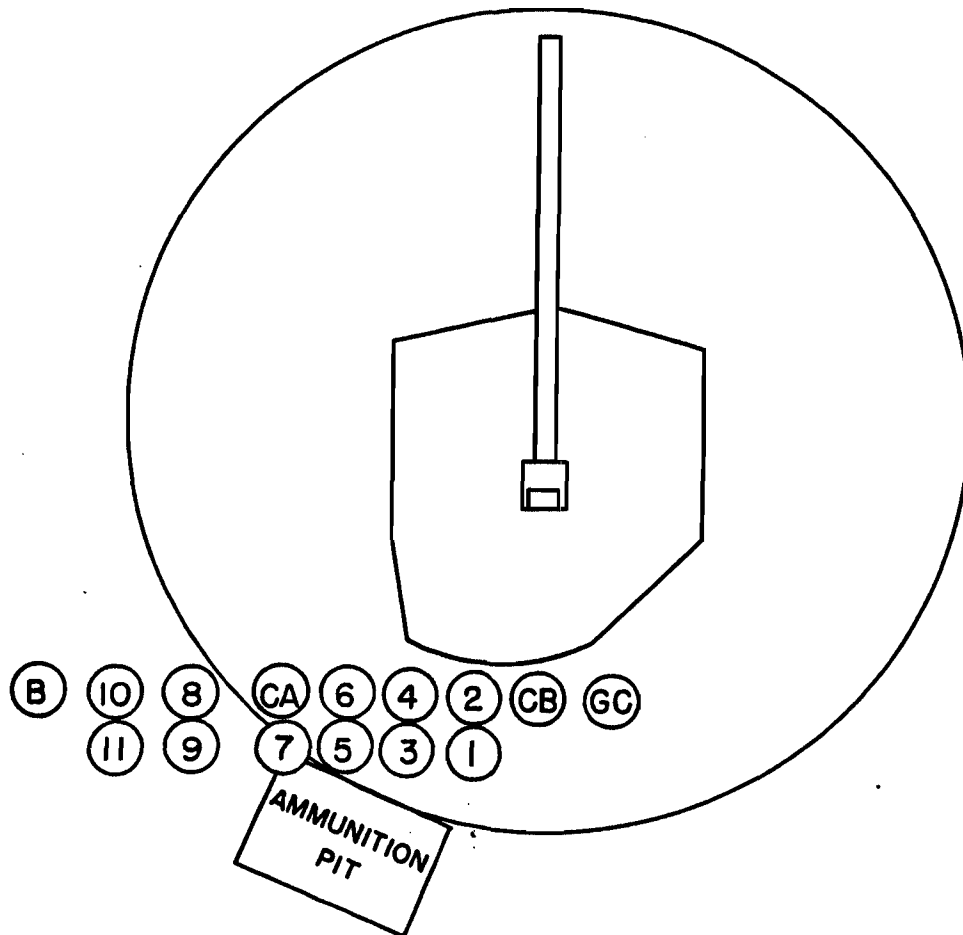

FIGURE 3.—Formation of gun section.
8. FORMATION OF GUN SECTION.—The gun section assembles in two ranks with four inches between files and forty inches between ranks, with even-numbered men in the front rank and odd-numbered men in the rear rank. (See fig. 3.) The front rank forms about one-half pace from the gun with the chief of breech behind the gun. After forming the section the gun commander takes post in the front rank, one pace to the right of his section.